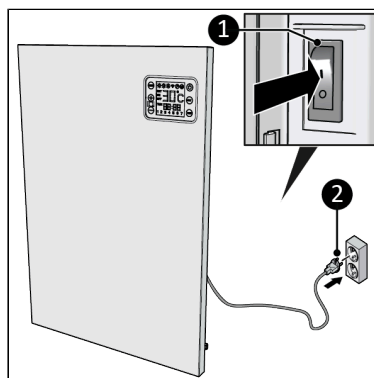

Figure 29.
2. Make sure the ON/OFF switch is in the OFF position (Figure 29, pos. 1).
3. Place the power plug (Figure 29, pos. 2) into an earthed wall socket that is easily accessible. Use an earthed wall socket with a minimum power of 1200 Watt.